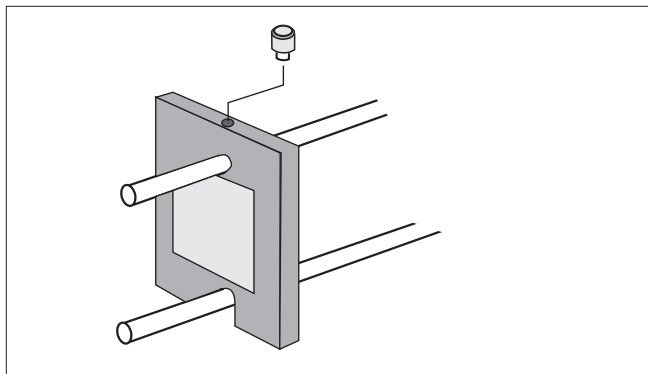

Figure 7. Lens/Grating Mounting Detail
3. The Lens/Grating Assembly mounts on the support bars of the Light Aperture Assembly (Figure 7). Loosen the thumbscrew, slip it over the bars, and finger-tighten the thumbscrew to hold it securely.